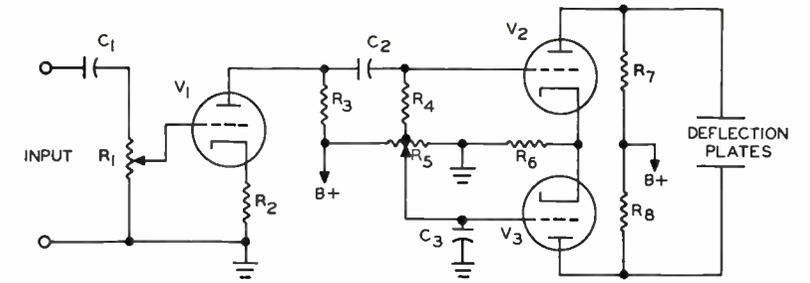

FIGURE 4
18. (b)  $180^\circ$  out of phase --  $V_2$  and  $V_3$  of Figure 4 form a push-pull stage, so the signal voltages on the plates are  $180^\circ$  out of phase.